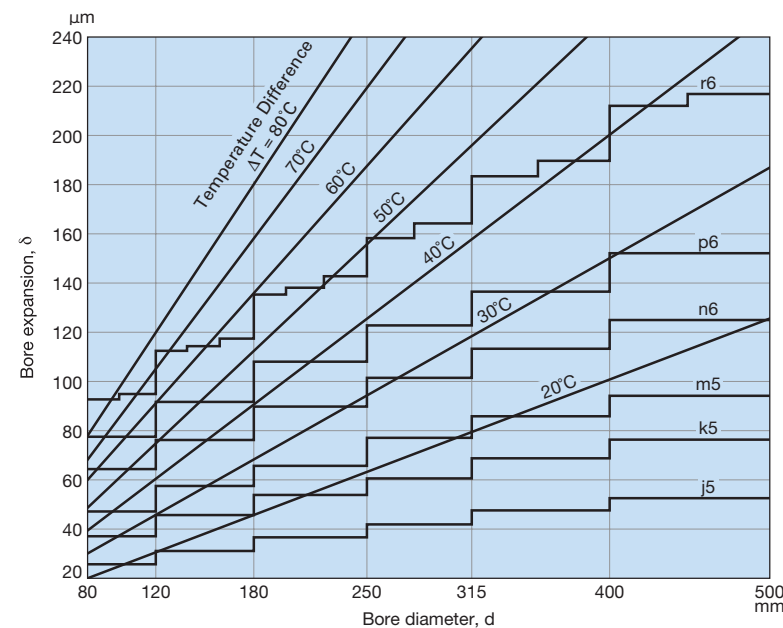

Fig. 1 Temperature and Thermal Expansion of Inner Ring
This is how to calculate the press fitting force to press an inner ring onto the shaft. In many cases, however, it is easier to mount the inner ring in place after heating it in oil to expand it. Although the applicable temperatures vary according to interference and shaft diameter, it is recommended to heat the bearing at 120 °C or lower whenever possible since the hardness of the bearing will decrease when heated to 150 °C or higher. Fig. 1 shows the heating temperature and bearing bore diameter expansion with respect to shaft diameter, in which the required heating temperature differences can be found, since it also shows the maximum interference of various fits.
to a temperature of 20 °C to 30 °C higher than the lowest temperature required for mounting without interference. The recommended amount of time for immersing the bearing in heated oil is approximately 20 minutes. For example, if a bearing with a bore diameter of 120 mm is mounted with an interference fit of n6, the maximum interference fit is 65 μm. In this case, the required temperature for heating the bearing would be 50 °C above ambient temperature as shown in Fig. 1. From that point on the heat scale, the temperature would then need to be raised an additional 20 °C to 30 °C in order to easily press fit the bearing onto the shaft. Consequently, the overall required heating temperature would be an additional 70 °C to 80 °C above ambient temperatures. Press fitting force and shrink fit for tight fitting have already been briefly discussed. However, excessive interference can sometimes produce abnormally large stress in the inner ring, which may cause the inner ring to crack or be otherwise damaged. Of the stress produced in the inner ring, the circumferential stress on the fitted surface in its inner diameter is the largest, and its magnitude can be expressed by equation (6) as shown below.
prevents the bearing from adhering to the fitted surface during dismounting. Shrink fitting is recommended as an easy mounting method for bearings with tighter interference. Heating temperature can be determined from Fig. 1 according to the specific bearing dimension and the intended interference. A high-quality mineral oil should be used for the heating oil.